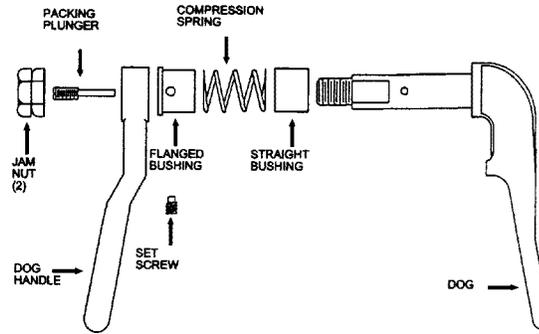
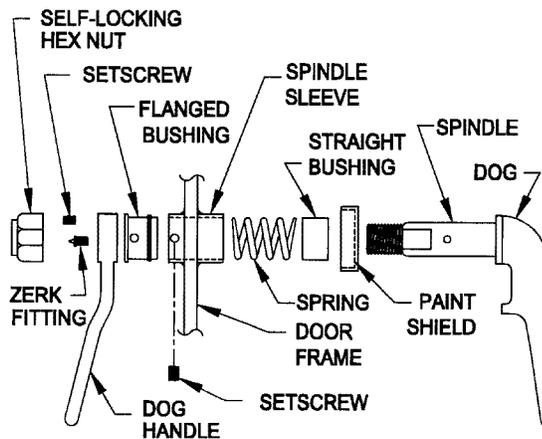

Figure 3-7. Individual Dog Assembly
Figure 3-7A. Individual Dog Assembly Modified by MACHALT 167-31010 (ECO-526)
- a. Remove the self-locking hex nut (or two jamnuts) and the dog handle from the inside of the door. Remove the dog and paint shield from the outside of the door. See figure 3-7 and figure 3-7A.
3-1.8.3 Individual Dog Installation - Sintered Bronze Bushings with Elisha Technologies EDC 1270 EPL Grease and CRES Paint Shield. (See figure 3-7A.)